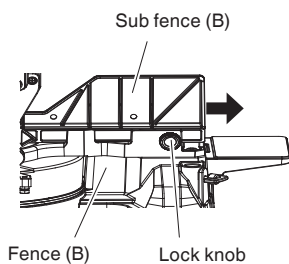

Fig. 12
This power tool is equipped with a sub fence (B). In the case of direct angle cutting and right bevel angle cutting, use the sub fence (B). Then, you can realize stable cutting of the material with a wide back face. When left angle cutting, loosen the lock knob, then slide the sub fence (B) outward, as shown in Fig. 12.